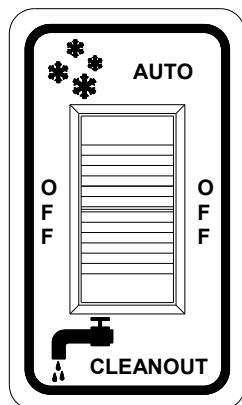
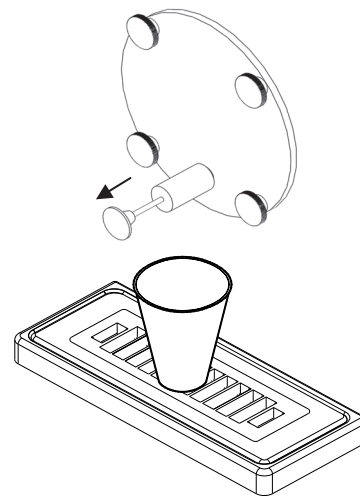

Fig. 8
Fig. 9
1. Fill the machine with cold water and set control switch (Fig. 8) to the “**CLEANOUT**” position. **DO NOT** use hot water which could damage the machine. Let the machine agitate 1 to 2 minutes, then drain the water by pulling out on the spigot handle (Fig. 9). Repeat the above procedure as necessary to make certain all product is removed from the machine. After the machine is empty, set each control switch to the “**OFF**” position.